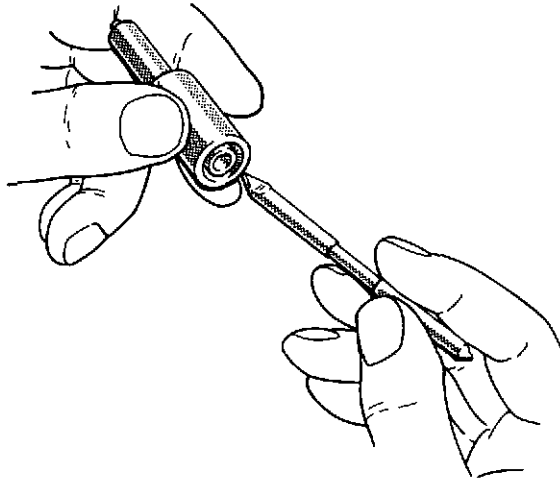

Fig 4 Nozzle seat scraper
- 3 Wash the components of each injector in fuel oil or paraffin, and blow dry with compressed air. Soak the nozzle assembly in a carbon solvent such as 'Maxan 774', obtainable from Henkel Chemicals Limited, Edgware Road, London. Remove any remaining carbon from the nozzle and valve using the cleaning kit, KRP 1089, see figures 4 to 8 inclusive. It is important that all carbon is removed from the bores of the spray holes and that the correct size cleaning wires are used. The cleaning wires are 'D' section in shape, their size being measured across the full diameter. Fit the cleaning wire into its holder so that not more than 1,5mm (0.0625 inch) protrudes from the chuck. Longer protrusions increase the risk of wire breakage and it is extremely difficult to remove a broken wire from a spray hole. Insert the wire into each spray hole with a twisting, scraping action, until the hole is clear.